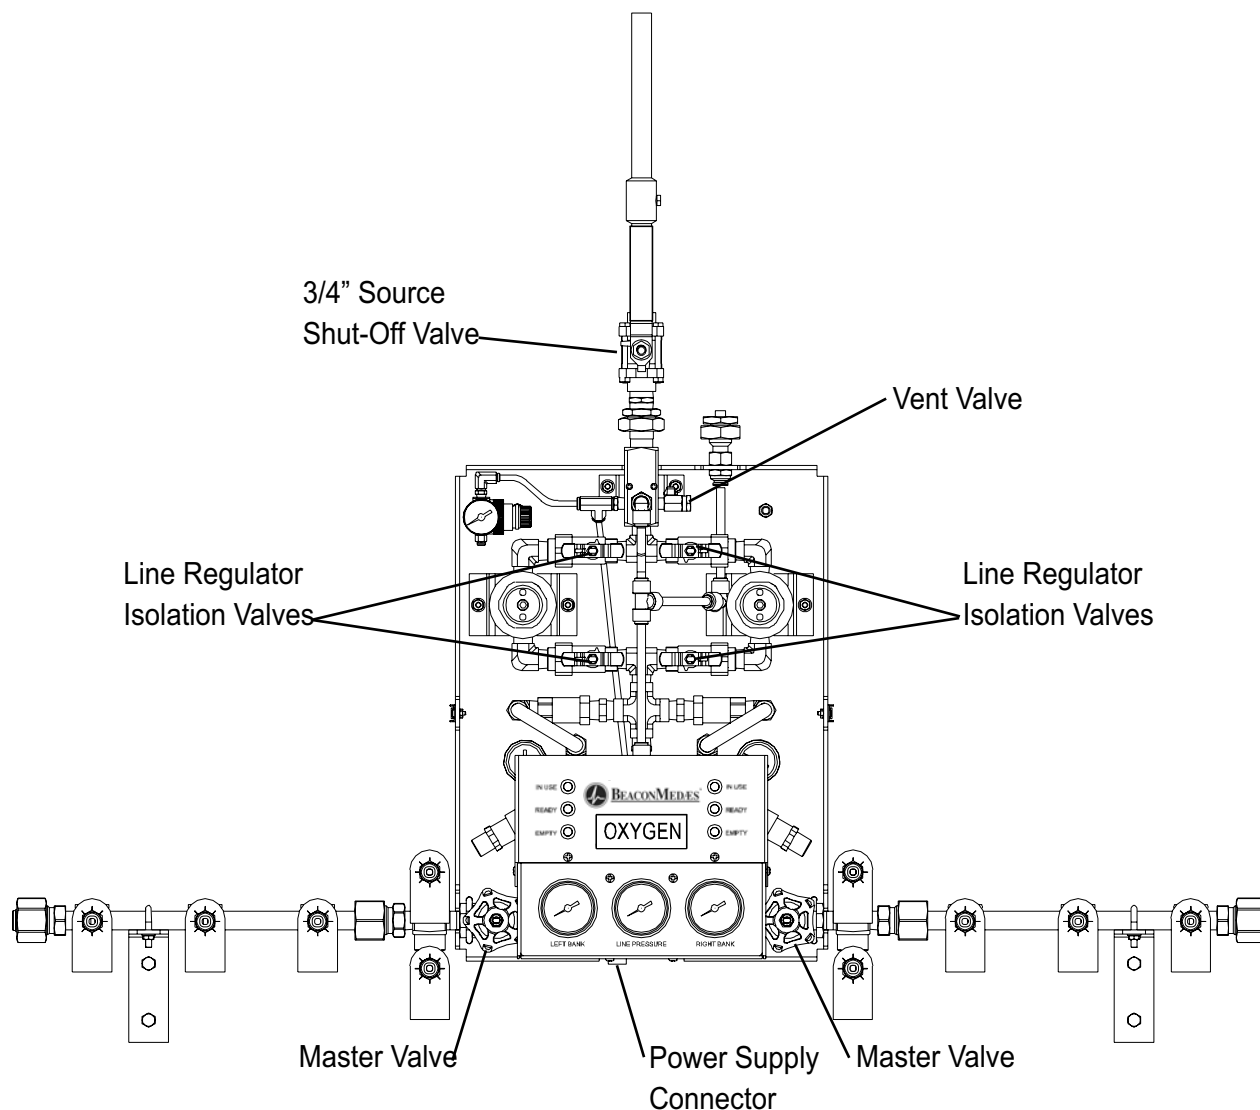

Figure 14
2. Verify the following: (Refer to Figure 14 for component location).
8. Close right bank cylinder. Slightly open vent valve (Figure 14). Verify the following: